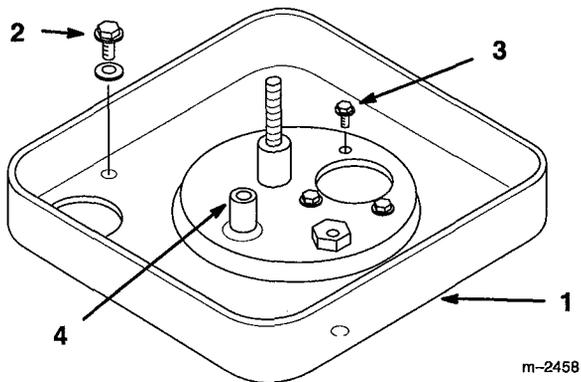

Figure 23
4. Remove the air filter base mounting bolts and screws. Slide base off breather tube (Fig. 23).
8. Install air filter base and assemble air filter (Fig. 23).